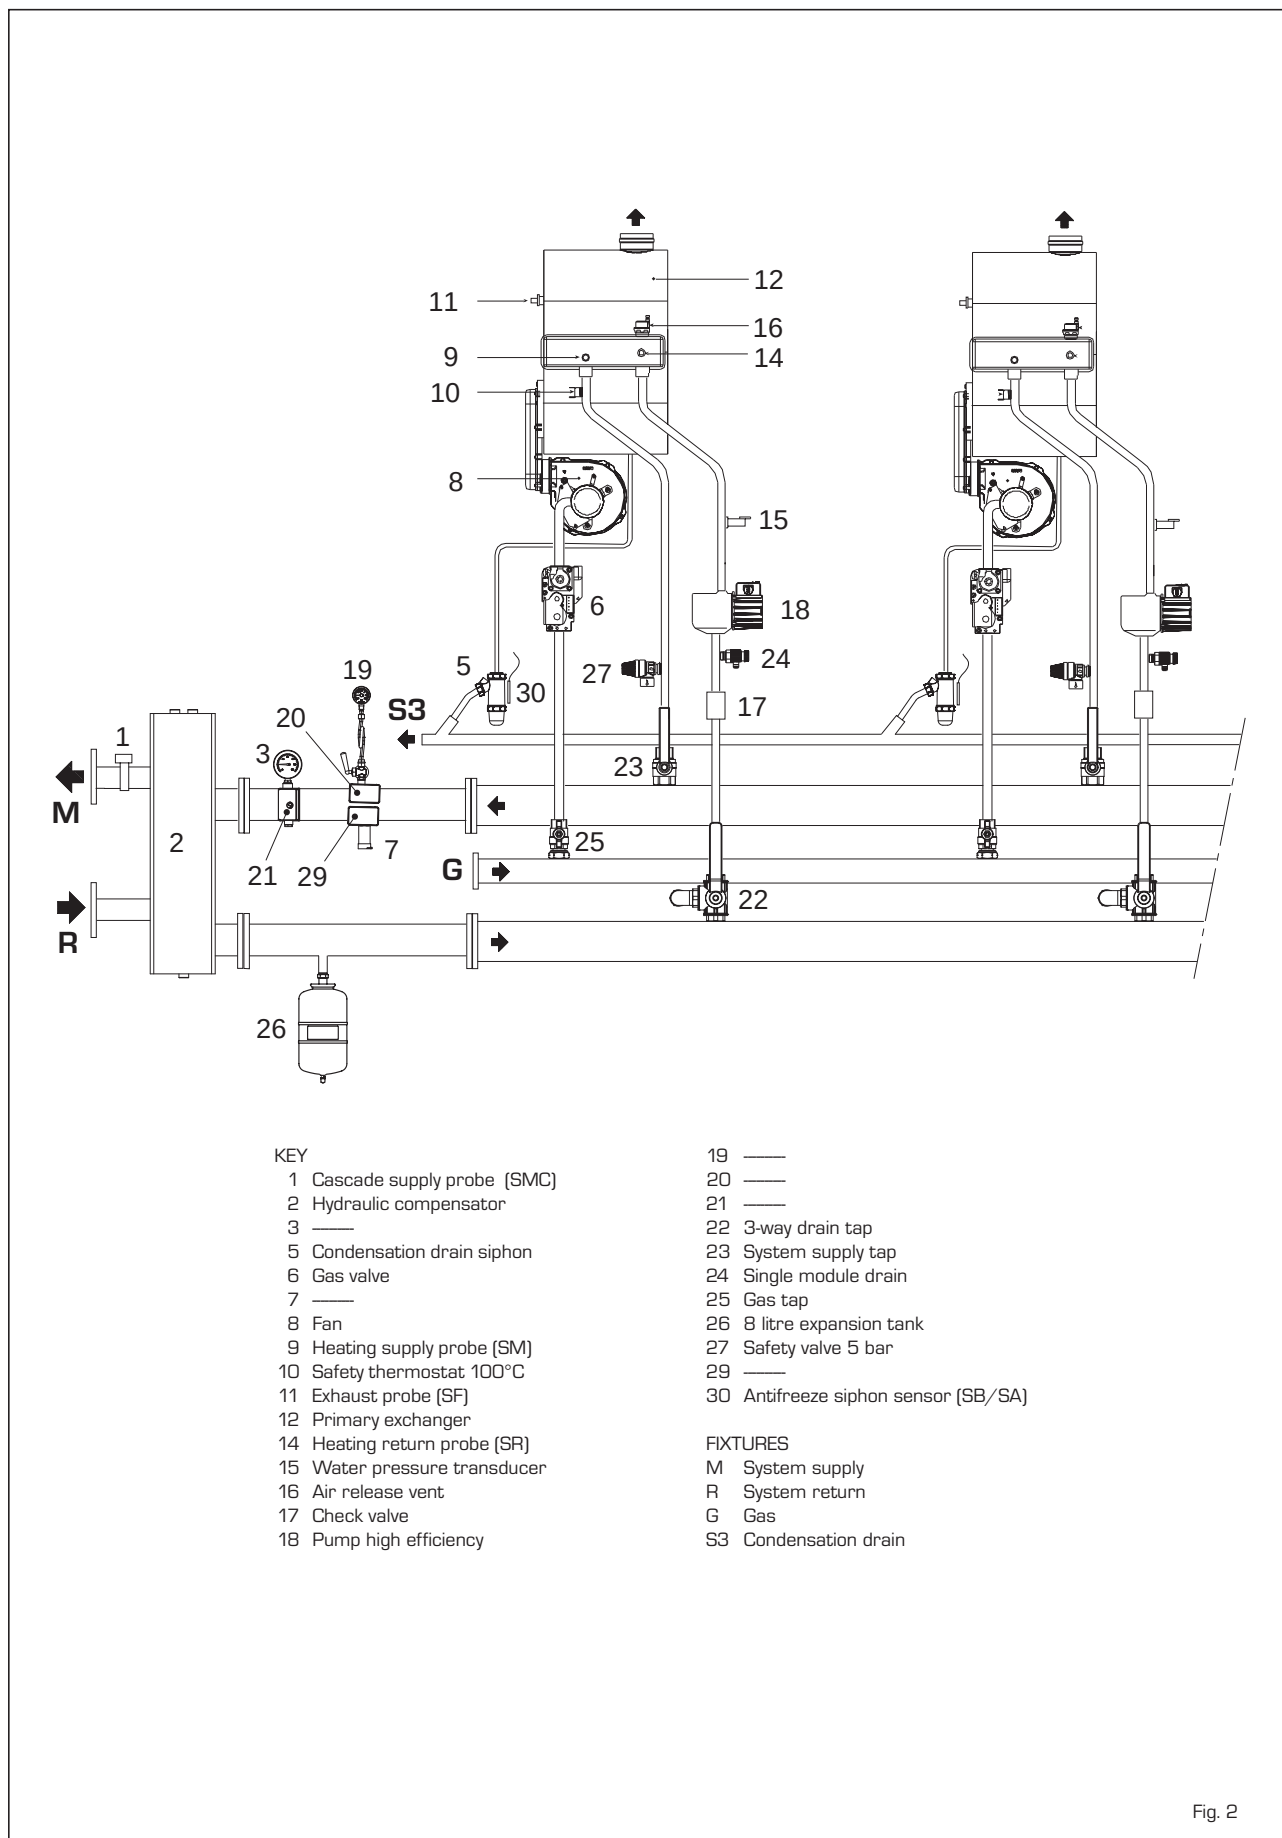

Fig. 2
1.4 OPERATING DIAGRAM (fig. 2)